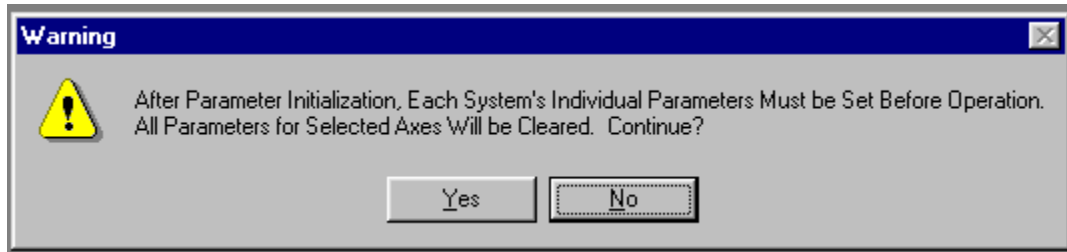

Figure 9.6.6 Warning
- a. Select Driver (D) and then Initialize Memory (I) from the menu.
- b. The warning dialog box shown in Figure 9.6.6 appears.